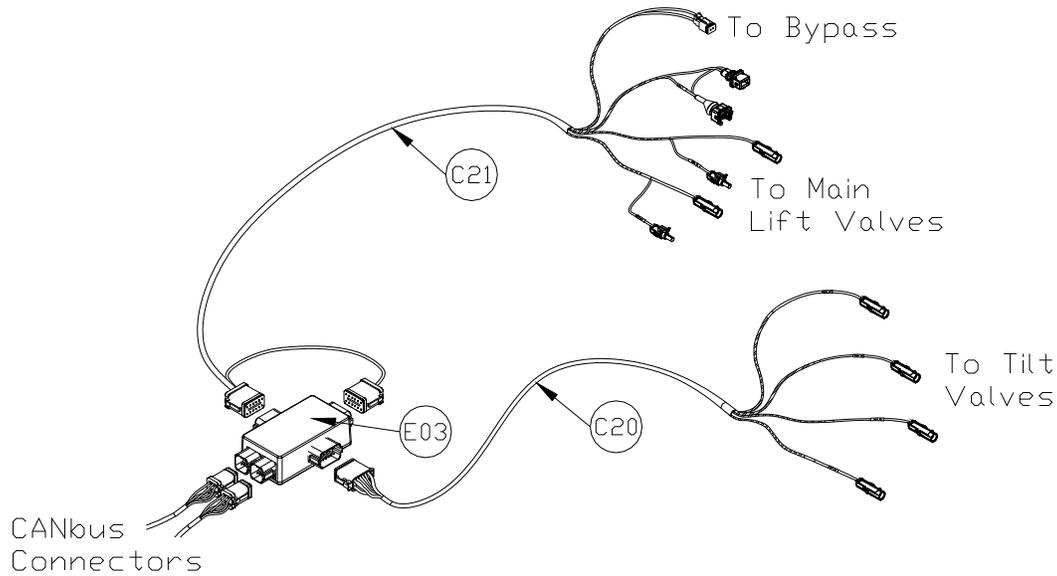

**Figure 16: Valve Module Bracket Installation**
3. Place the valve module between the valve coils. Slide a valve mounting bracket over the connectors of the valve module and the valve coil connectors. This may require flexing the plastic bracket slightly (Figure 16).